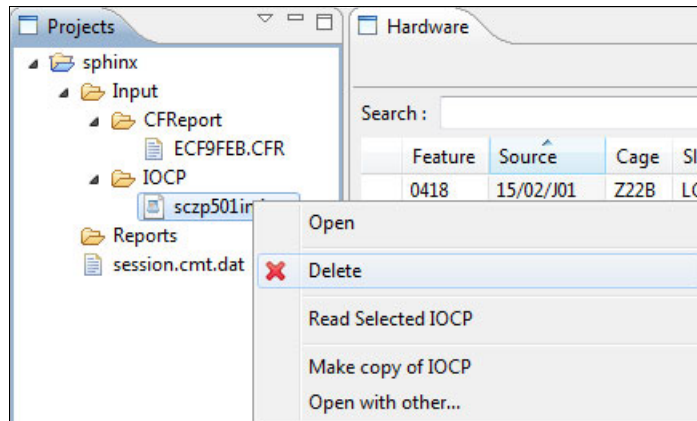

Figure 5-69 CMT - Reading the selected IOCP
3. In the Projects pane, under the Input tab, expand the IOCP tab, right-click on the IOCP file, and select **Read Selected IOCP** (Figure 5-69).